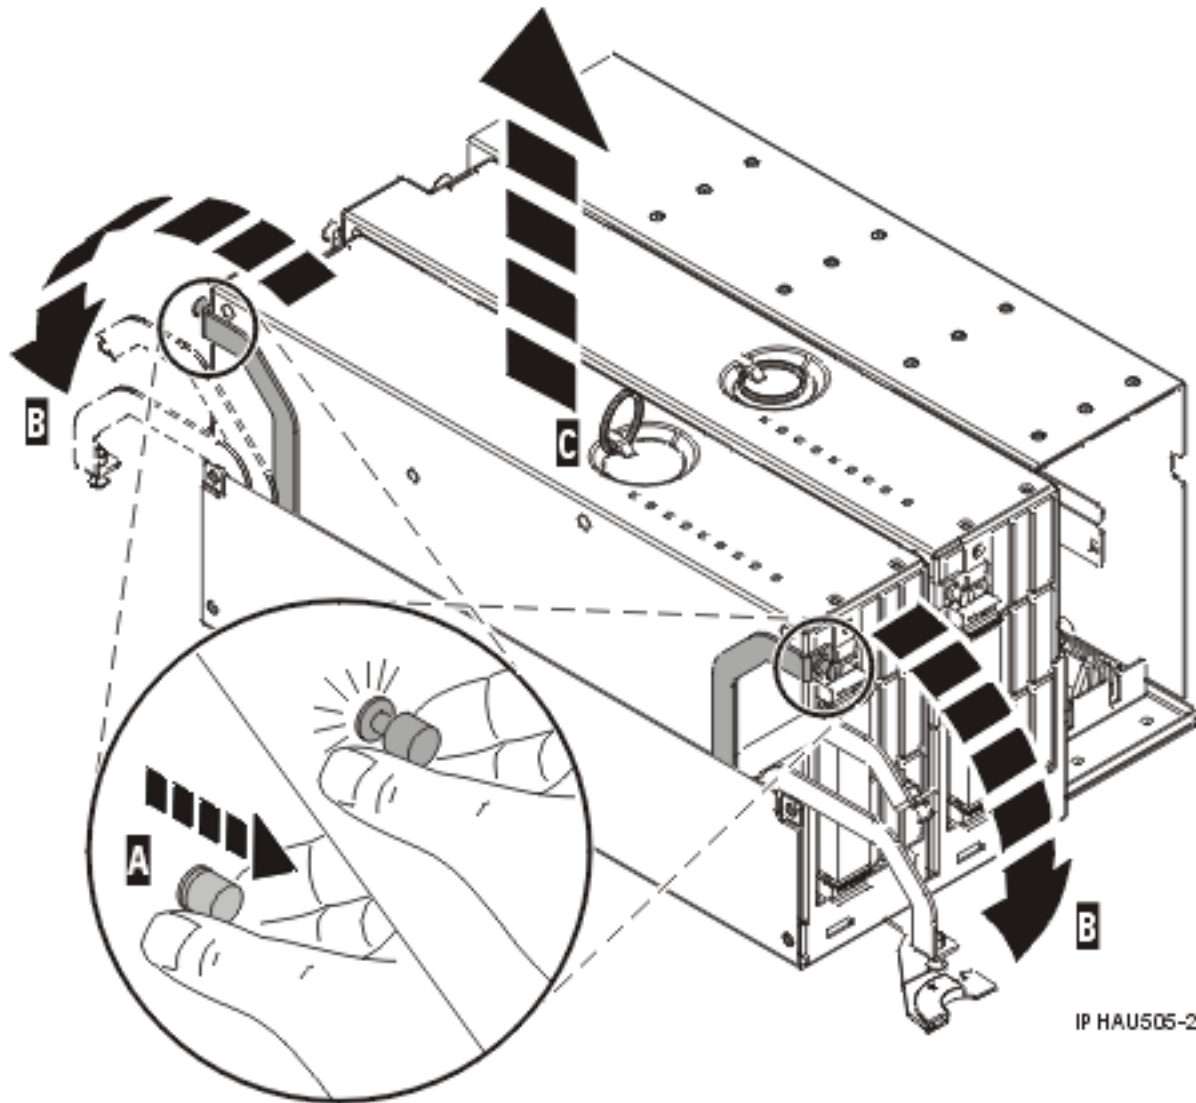

Figure 8. Removing the system processor assembly from the system backplane assembly
2. As shown in Figure 8 on page 16, pull out on the locking knobs (A) until you feel them unlock. Push the locking arms (B) down and out to unlock the processor assembly, and then lift it out of the system backplane assembly (C).